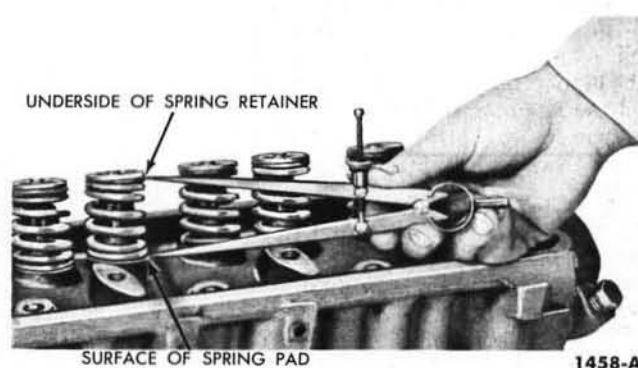

FIG. 19—Valve Spring Assembled Height
3. Measure the assembled height of the valve springs from the surface of the cylinder head spring pad to the underside of the spring retainer with dividers (Fig. 19). Check the dividers against a scale. If the assembled height is greater than  $1\frac{3}{16}$  inches, install the necessary 0.030-inch thick spacer(s) between the cylinder head spring pad and the valve spring to bring the assembled height to the recommended dimension of  $1\frac{2}{32}$ – $1\frac{3}{16}$  inches. **Do not install spacers unless necessary. Use of spacers in excess of recommendations will result in overstressing the valve springs which will lead to excessive load loss and spring breakage.**